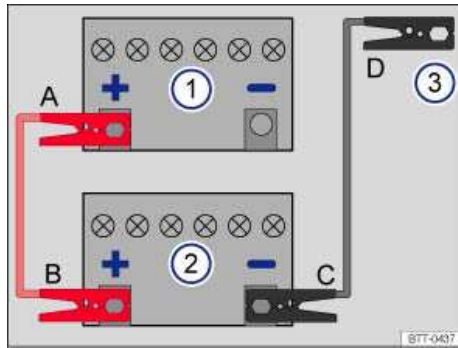

Fig. 173 Diagram for attaching the jumper cables: Dead battery 1 and booster battery 2.
⇒ fig. 173 A – B – C – D.
3. Attach one end of the *red* jumper cable to the **positive terminal (+)** of the dead battery: (1) ⇒ ⚠
4. Attach the other end of the *red* jumper cable to the **positive terminal (+)** of the good battery (booster battery): (2).
5. Attach one end of the *black* jumper cable to the **negative terminal (-)** of the booster battery: (2) ⇒ fig. 173.
6. Attach the other end of the *black* jumper cable (3) to a **bare metal part of the vehicle with the dead battery**. This part should be connected directly to the engine block. You may also attach the cable to the engine block itself or to the towing eye installed on the front of the vehicle ⇒ *Towing.* Attach the clamp to a point that is as far away as possible from the dead battery (1) ⇒ ⚠.